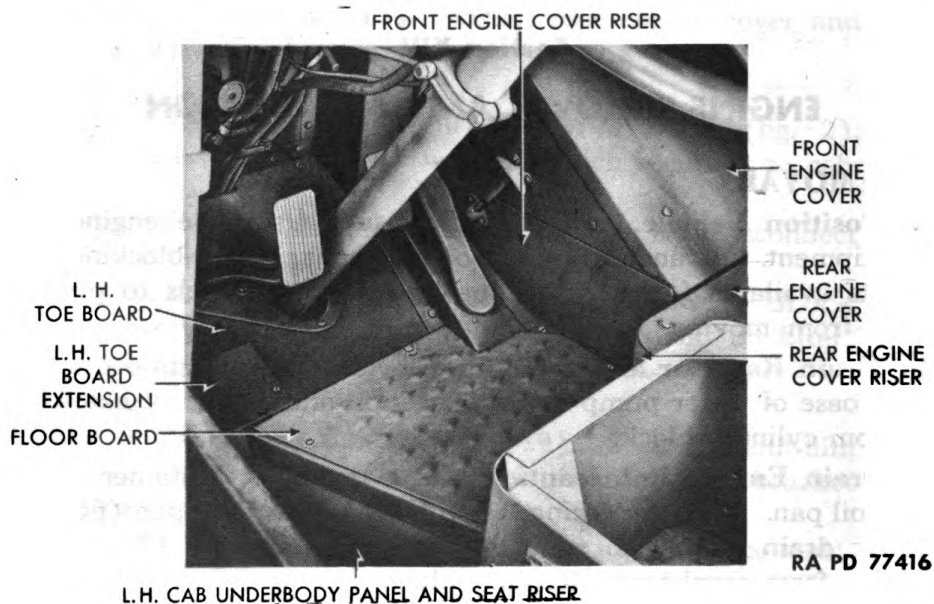

Figure 22 — Floor Boards and Engine Covers — Left Side
k. Install Engine Covers (fig. 22). Work transmission cover plate into position over gearshift levers and parking brake lever. Work leather lever boots down to base of levers. Install two toothed lock washers and screws which secure rear of plate to seat risers. Place rear engine cover riser in position between seat risers and front engine cover riser, and secure with eight bolts, flat washers, lock washers, and nuts. Place rear engine cover in position on its riser, and secure to riser with nine lock washers and screws. Place front engine cover in position on its riser, and hook the two spring catches which hold cover in place.